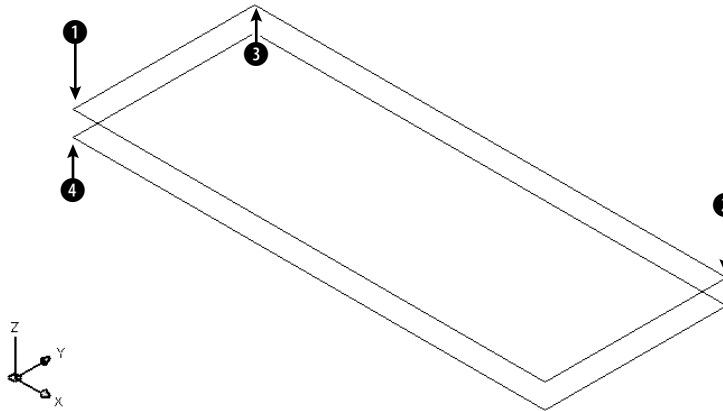

Figure 21-7: The two rectangles, shown from Southeast Isometric view.
5. Choose **View** ⇨ **3D Views** ⇨ **SE Isometric**. Now you can see the two rectangles, as shown in Figure 21-7.
Specify first point: *Pick the endpoint at ❶ in Figure 21-7.*
11. Turn dynamic input off by clicking the DYN button on the status bar. (Dynamic input doesn't support spherical or cylindrical coordinates very well.) To draw an open cover for the piano bench, start the LINE command. Start it at the endpoint at 2 in Figure 21-7. At the **Specify next point or [Undo]:** prompt, type **@15<90<45 ↵**. You know the length of the line because the cover is the same as the width of the piano bench. At the **Specify next point or [Undo]:** prompt, turn on ORTHO, move the cursor parallel to the length of the bench, and type **39**. At the **Specify next point or [Close/Undo]:** prompt, use the Endpoint object snap to pick 3. End the LINE command. Zoom out and pan so that you can see the entire bench.